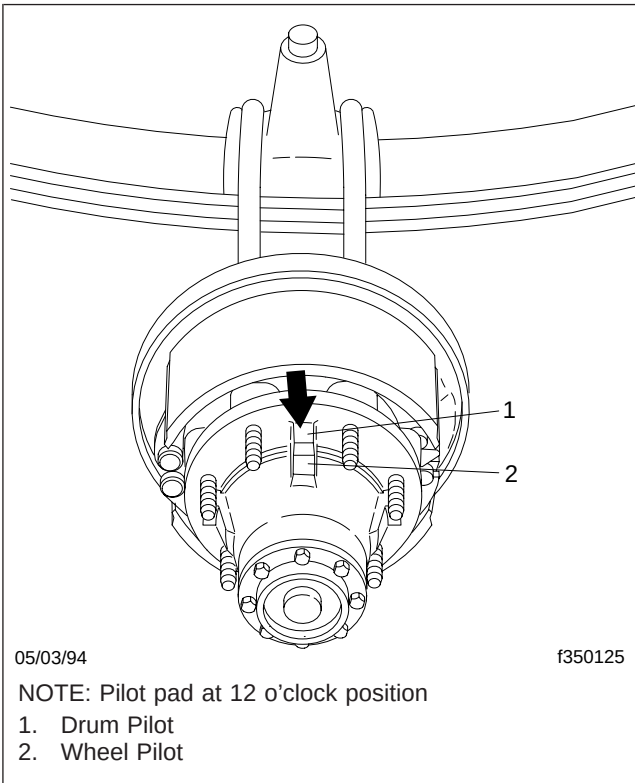

Fig. 1, Hub Pilot Pads
- 1.1 On hub-piloted drums, position the brake drum on the top step of the pilot pad. One of the hub's pilot pads should be at the twelve o'clock (top center) position. See Fig. 1.